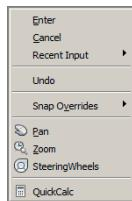

FIGURE 2.9 This context menu appears when you hold down the right mouse button longer than 250 milliseconds.
9. Right-click again to repeat the last command, and then click two points on the canvas. Next, slowly right-click (holding down the right mouse button for longer than 250 milliseconds, to be precise), and you'll see the context menu shown in Figure 2.9. Left-click on the word Enter in this menu to complete the LINE command.